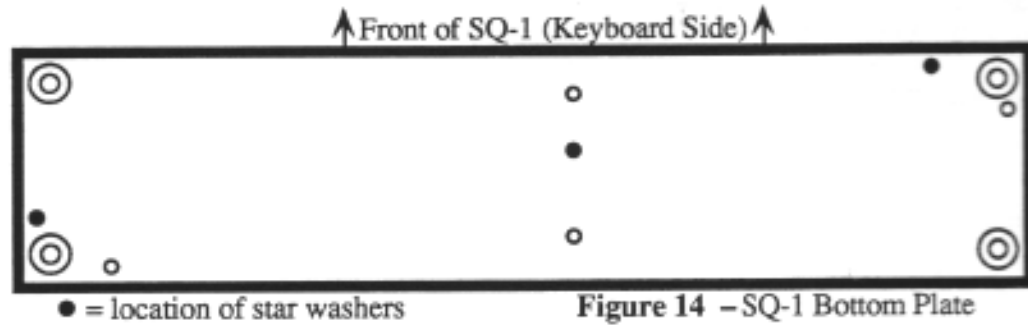

Figure 14 – SQ-1 Bottom Plate
13. Power up, test the unit. Reinstall all the screws on the bottom plate (use no more than 8 in/lbs of torque). See Figure 14 for location of the star washers.
16. Reinstall all the screws on the bottom plate. See Figure 14 for location of the star washers.
17. Replace all the screws on the bottom plate. See Figure 14 for location of the star washers.
13. Replace all the screws on the bottom plate. See Figure 14 for location of the star washers.
| Installing | <ol style="list-style-type: none"> 6. Insert the Wheel Assembly from the bottom (when the unit is upside-down, see Figure 10). 7. Connect the new wire harness to the Main Board (J12, J5), to the Keypad/Display board (6-pin), and to the Transformer Board (J1), paying particular attention to the alignment of pins and connectors. Reconnect the wire harness to the case using wire ties. 8. Reattach the Wheel Assembly to the case using the four screws (use no more than 8 in/lbs of torque). 9. SQ-1 ONLY: If the serial number is below 15250, add the new ground wire (see p. 2). 10. Return the unit to an upright position. Power up, test the unit. 11. Replace all the screws on the bottom plate. See Figure 14 for location of the star washers. |
9. Replace all the screws on the bottom plate (use no more than 8 in/lbs of torque). See Figure 14 for location of the star washers.